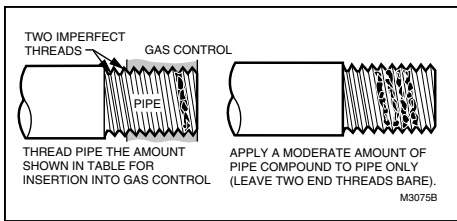

Fig. 2—Use moderate amount of pipe compound.
4. Apply moderate amount of good quality pipe compound to adapter, leaving two end threads bare. Refer to Fig. 2. (On LP gas installations, use compound resistant to LP gas.) Do not use Teflon tape.